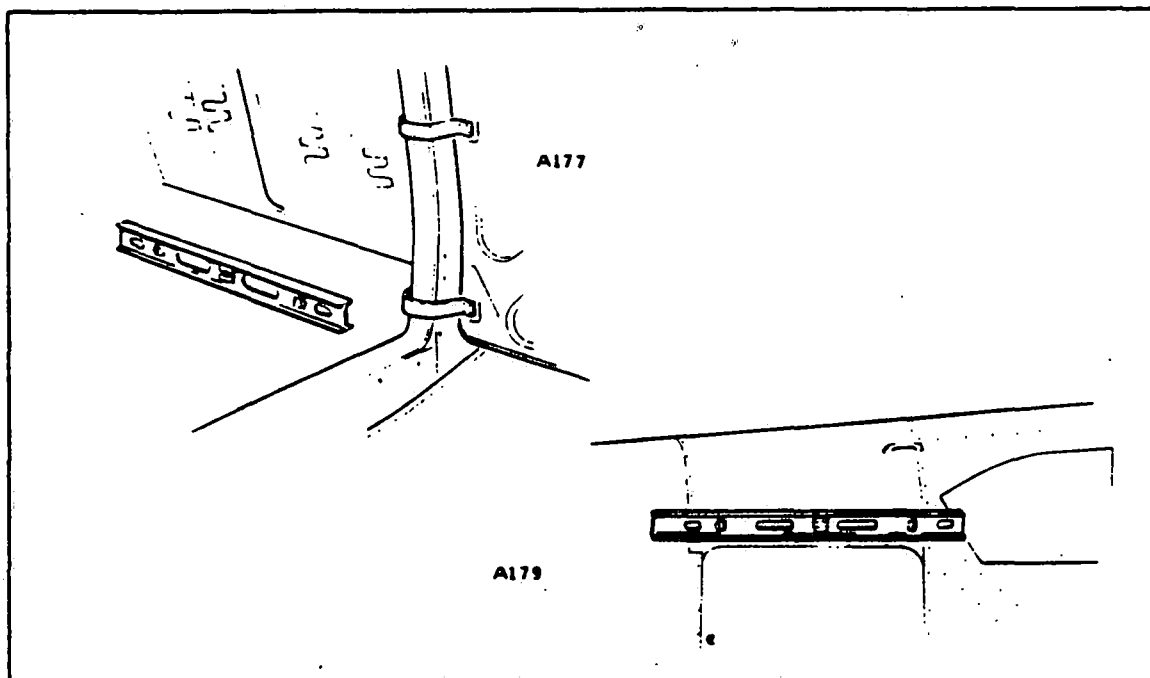
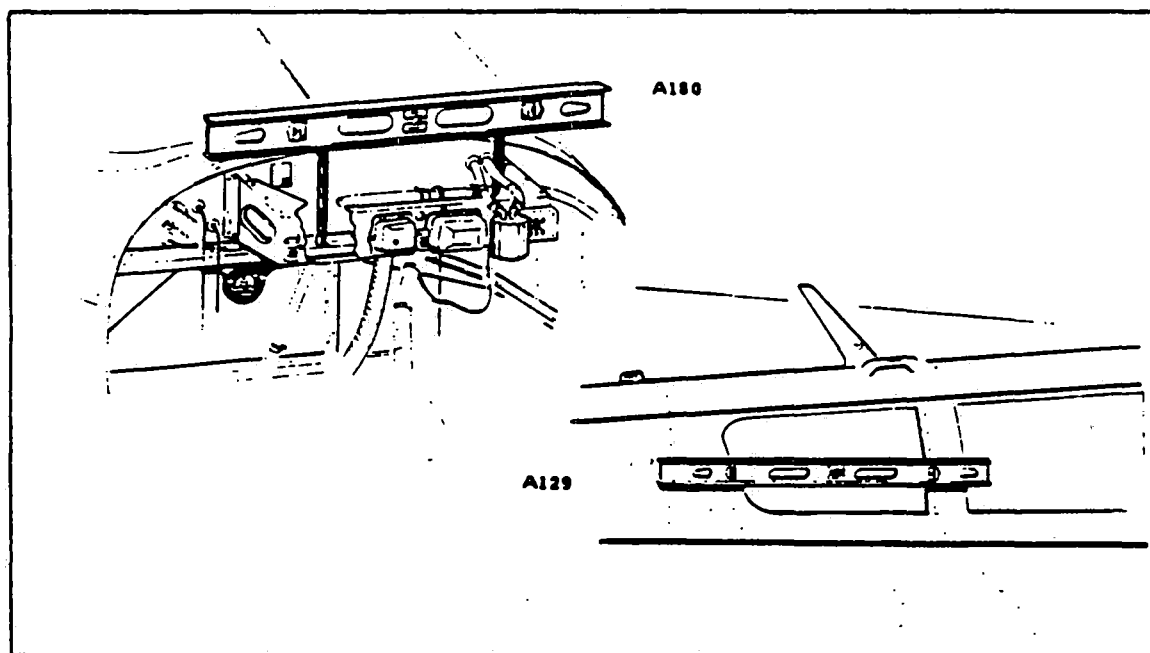

Figure 2-11. Leveling Airplane
Figure 2-12. Leveling Airplane
- a. To longitudinally level the airplane, partially withdraw the two leveling machine screws on the side of the fuselage. On airplanes with Serial Numbers 30-1 to 30-852 inclusive and 30-854 to 30-901 inclusive, the screws are located over the baggage door. (Refer to Figure 2-11.) On airplanes with Serial Numbers 30-853 and 30-902 to 30-2000 inclusive, there is one screw fore and one aft of the right rear window. (Refer to Figure 2-12.) Place a spirit level on these screw heads and adjust the jacks until the level is centered. Should the airplane be either on scales or on the floor, first block the main gear oleos to full extension; then deflate the nose wheel until the level position is reached.
b. To laterally level airplanes with Serial Numbers 30-1 to 30-852 inclusive and 30-854 to 30-901 inclusive, place a level across the floorboard at Station 136.5 over the bulkhead to which the baggage door hinge brackets are attached. (Refer to Figure 2-11.) On airplanes with Serial Numbers 30-853 and 30-902 to 30-2000 inclusive, place a level on or parallel to the hat section channel of the forward cabin bulkhead. (Refer to Figure 2-12.) Should equipment or other obstacles hinder placing the level directly on the channel, use two spacers (rods, etc.) of equal length between the level and channel to bring the level above any obstacles. Raise or lower one wing tip by deflating the appropriate tire on the high side of the airplane or adjust either jack until the bubble of the level is centered.